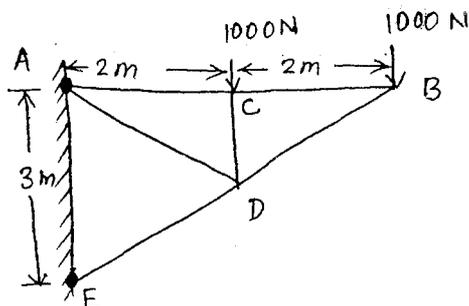

Fig. Q. 12 (a)
12. (a) Find the forces in the members of the truss shown in fig. Q. 12 (a) by method of joints.